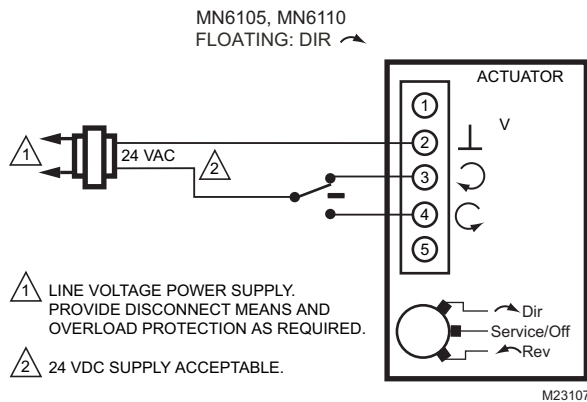

Fig. 12. Wiring MN6105 for Floating Control.
2. Wire actuator using Fig. 12–16. For other wiring configurations, see actuator data sheet.